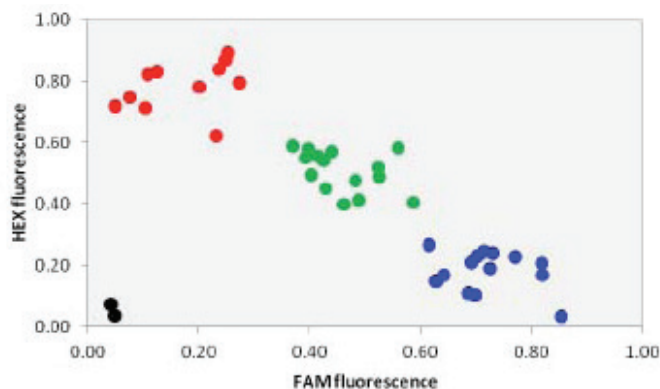

Figure 3.2. Genotyping clusters are not distinct or tight, and data points are scattered across the plot.
**Plot characteristics:** genotyping clusters are not distinct or tight, data points are scattered (Figure 3.2).